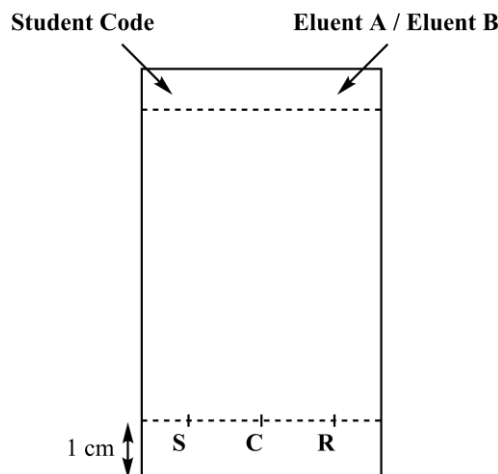

Figure 3. TLC plate preparation
- Prepare your TLC plate.** Use a pencil to **draw** carefully the start line (1 cm above the bottom of the plate) and **mark** the positions in order to spot the 3 samples. **Label** them **S** (Starting material), **C** (Crude product) and **R** (Recrystallized product), as described in Figure 3. On the top left of the plate, **write** your **Student Code**. On the top right of the plate, **write** the eluent you use (first **Eluent A**, then **Eluent B**). **Spot** each of the three samples on the plate 2-3 times, using capillary spotters.